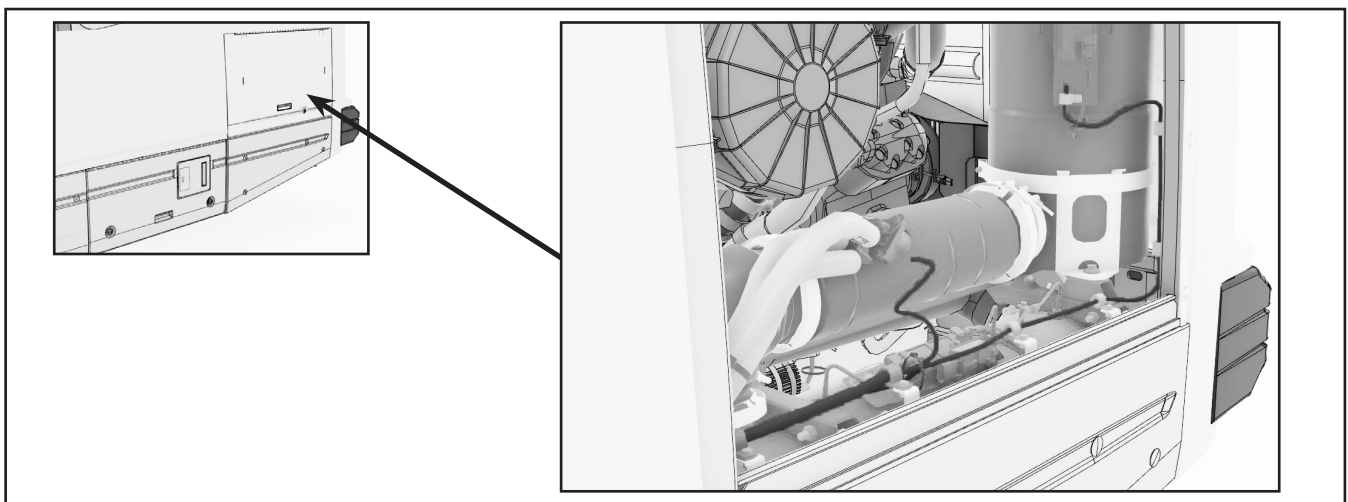

Figure 7 - Section of WHA 64 in Engine Compartment (Typical Installation)
- 1.18. Remove and discard the cut section of the WHA 64 going into the engine compartment, around the after-treatment system (Figure 7).
- 1.21. Route the wire kit in the engine compartment like the removed old section of the WHA 64. Connect all connectors and secure (ref. Figure 7).